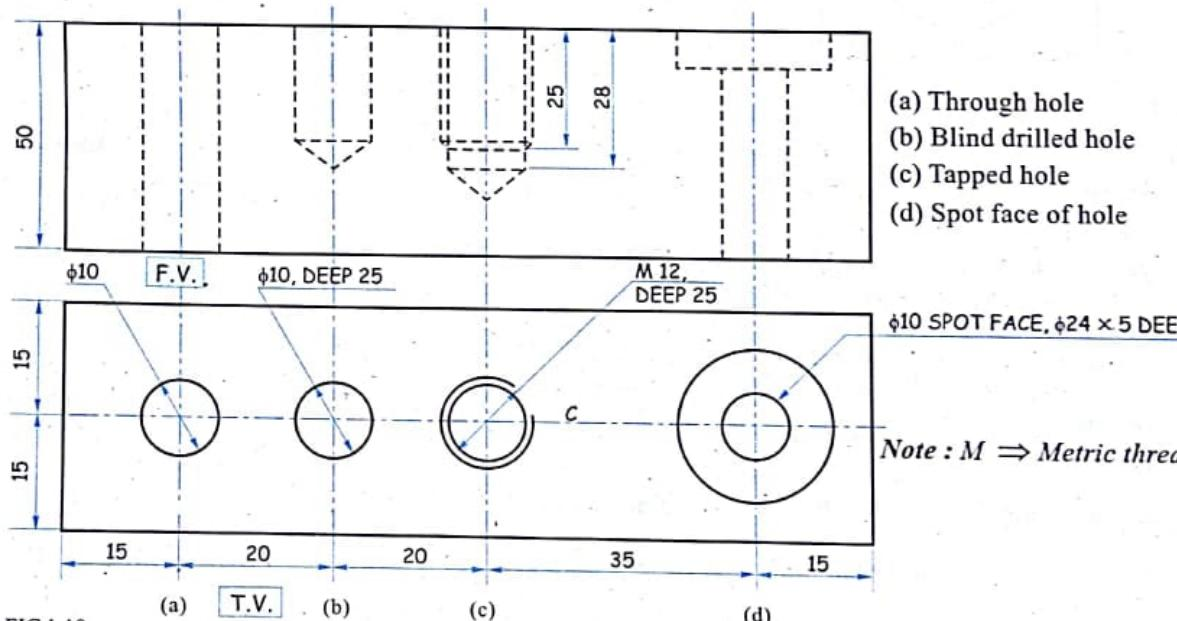

FIG.1.18
10. Dimensioning of hole. Refer figure 1.18.